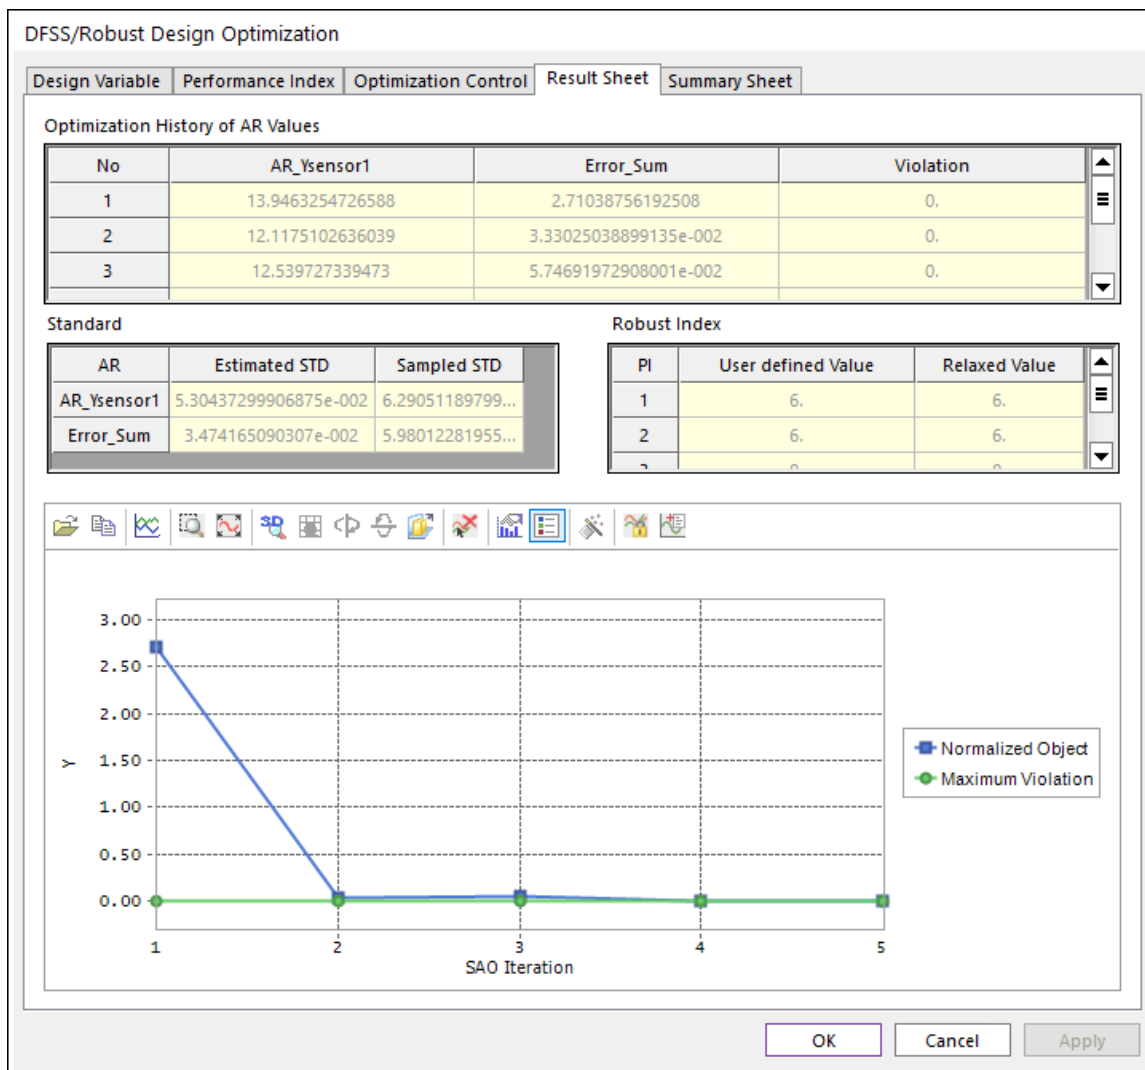

Figure C-5-4 Convergence history of 6-Sigma design optimization
- When the optimization process is converged, click the **Result Sheet** tab. Then, the optimization results are shown in Figure C-5-4. The final design gives that AR1=12.299 and the estimate Sigma and the sample Sigma are 0.053 and 0.062, respectively. In the robust index check, the relation of $AR1 \pm 6 * 0.062$ satisfies the limit values of 9.3 and 15.3. Thus, the relaxed values for robust indexes are obtained as '6'. For more information of 6-sigma design, refer to the 'Guideline Manual'.